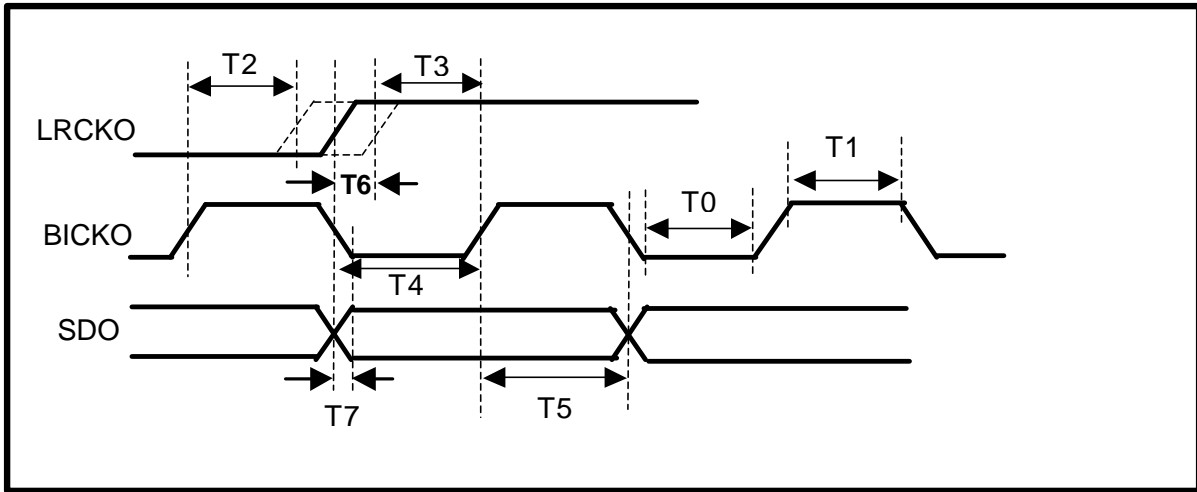

Figure 4. I²S Output Switching Characteristics.
4.1. I²S Output switching characteristics (10pF load, Fsm = 48kHz) (Refer to Figure 4.)